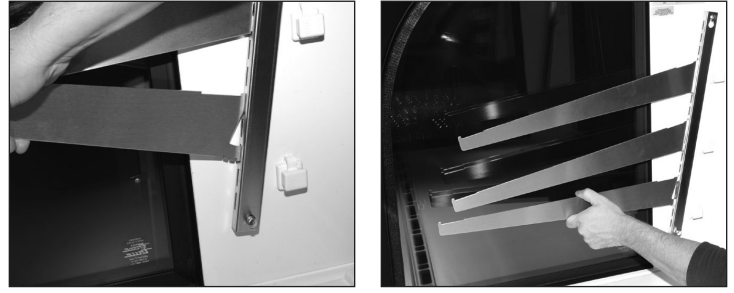

Fig. 6. Hook the shelf supports into the pilasters at the desired height.
2. Locate the shelf supports and install the teeth-end into the stainless pilasters on the interior walls at the desired height (see fig. 6). Install as matching left and right pairs at the same height.